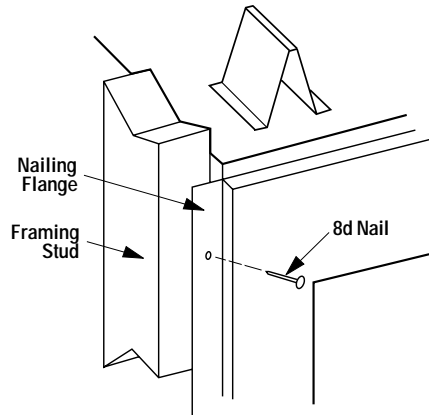

Figure 18
Step 5. The fireplace should be secured to the side framing members through the nailing flange (**Figure 18**).